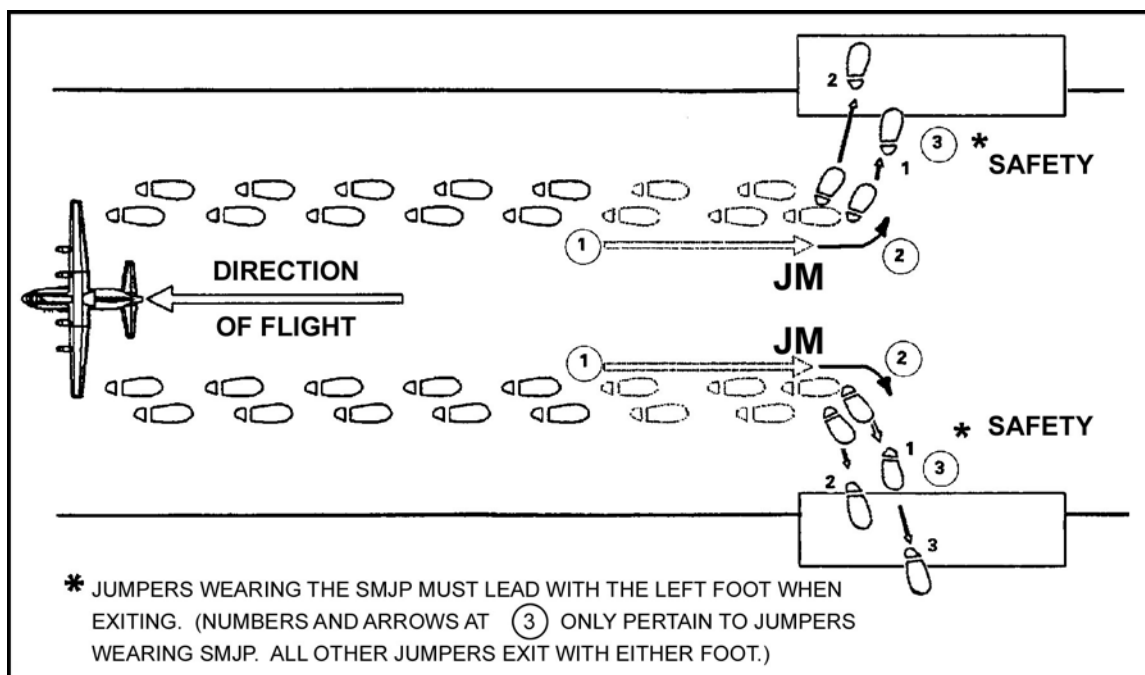

Figure 5-9. Jumper execution upon receiving the command STAND BY.
(1) At this command, parachutist number 1 shuffles toward the door, establishes eye-to-eye contact with the safety, hands the safety his static line, holds his elbows firmly into his sides with his palms on the end of the reserve, turns and centers himself in the open jump door, and awaits the command GO.
(2) All following parachutists maintain the static line tight and close up behind the preceding parachutist (Figure 5-9).